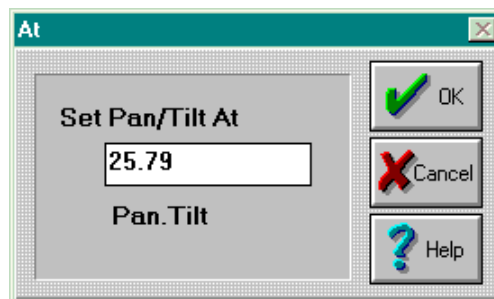

Figure 5.10. Set Pan/Tilt At Dialogue Box
3. Use the trackball to position the fixture(s). Alternately, press the <POS> key in the CONSTRUCTS group and then the <AT> key in the SELECT group to bring up the **At** dialogue box. Input the desired positions in whole numbers using the keypad with a "." (<.> key) between the values. Refer to Figure 5.10.